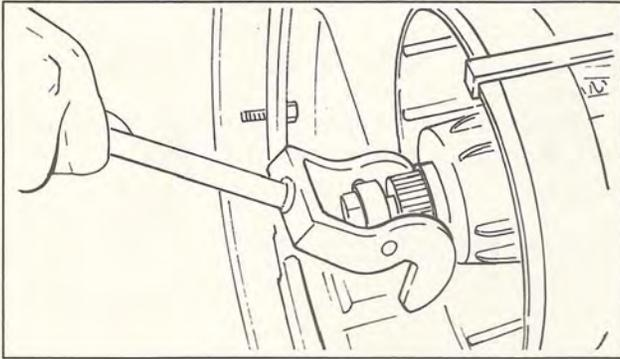

Fig. 2-13
- (3) Push in the primary sliding sheave using primary sheave installer/remover 2 (special tool) and primary sheave assembly securing bolt, and install primary sheave installer/remover 1 on the primary fixed sheave and primary sliding sheave. (Fig. 2-13)